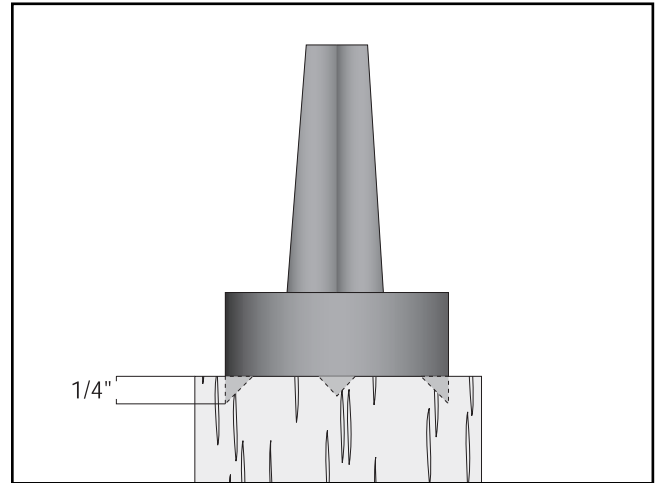

Figure 23.
3. Hold the spindle vertically and support it on a solid surface. Line up the spur center with the center of the workpiece. Drive the spur center into the stock about 1/4" using a dead blow hammer. Be careful not to split the workpiece. See Figure 23. Wood with splits along the grain may fly off during the operation. Note—*With dense wood, drill a hole at the center and score lines with a saw blade for the spur center.*